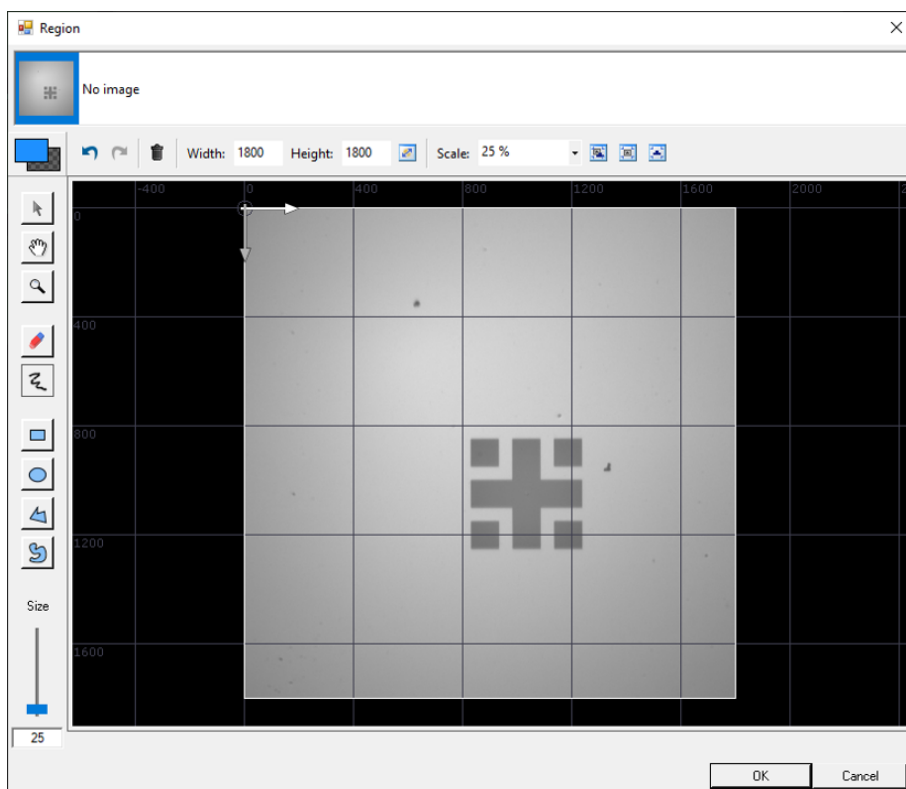

Figure 3-85 Region editor window
6. Check **Region** window that become visible, see Figure 3-85